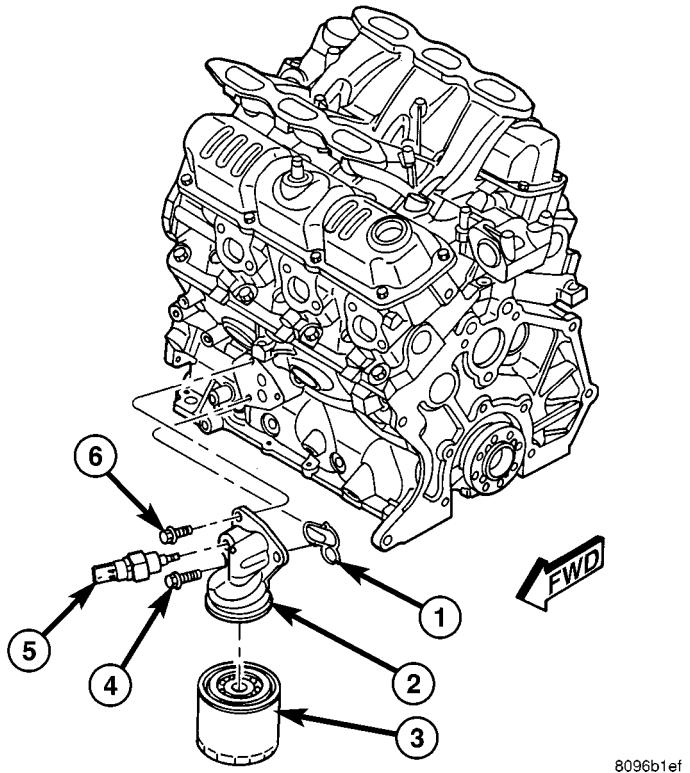

Fig. 100 OIL FILTER ADAPTER
- (1) Using suitable oil filter wrench, turn filter counterclockwise to remove from oil filter adapter (Fig. 100). Properly discard used oil filter.
- (1) Wipe oil filter adapter base clean and inspect gasket contact surface.
- (2) Lubricate gasket of new filter with clean engine oil.
- (3) Install new filter until gasket contacts base (Fig. 100). Tighten filter 1 turn or 20 N·m (15 ft. lbs.). Use filter wrench if necessary.
- (4) Start engine and check for leaks.
- (1) Raise vehicle on hoist.
- (2) Remove the oil filter.
- (3) Disconnect oil pressure switch electrical connector.
- (4) Remove oil filter adapter attaching bolts (Fig. 100).
- (5) Remove oil filter adapter and seal (Fig. 100).
- (1) Clean oil filter adapter and install new seal.
- (2) Position adapter on engine block and install bolts (Fig. 100).
- (3) Tighten adapter bolts to 28 N·m (250 in. lbs.).
- (4) Connect oil pressure switch electrical connector (Fig. 100).
- (5) Install the oil filter.
- (6) Lower vehicle on hoist.
- (7) Start engine and allow to run approximately 2 minutes.
- (8) Turn off engine and check oil level. Adjust oil level as necessary.